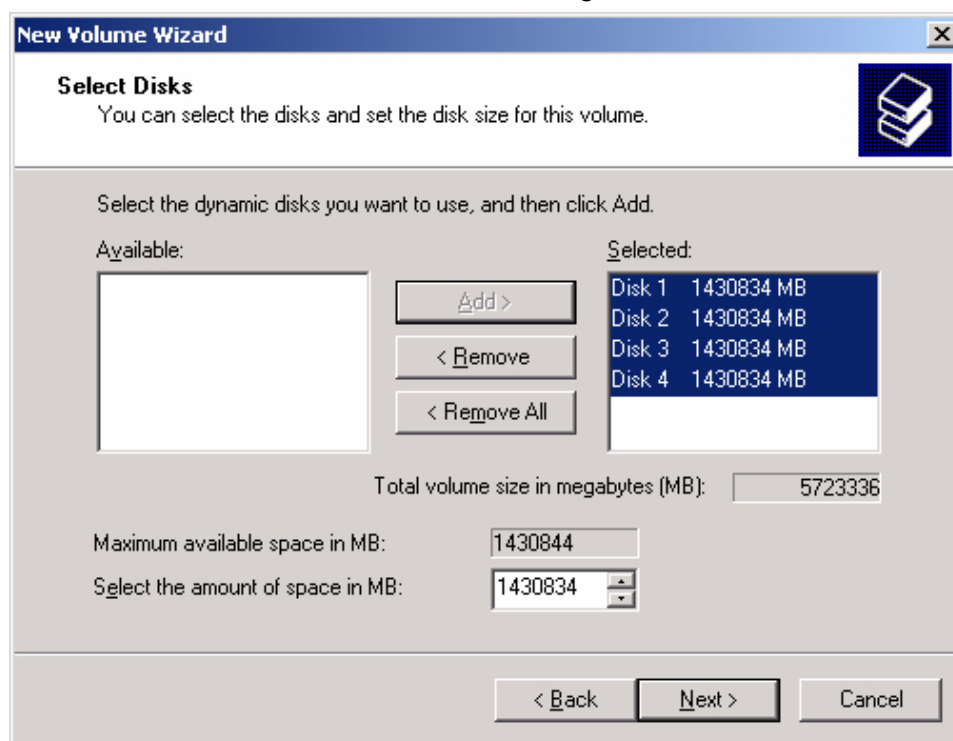

FIGURE 6-31. New Volume Wizard - Select Disks Screen, With “Disk 1-4” Moved to “Selected:”.
3. At the bottom of the screen, at “Select the amount of space in MB:” select a number that is at 10MB less than the maximum available space of the disk. Click **NEXT >**. See Figure 6-31.